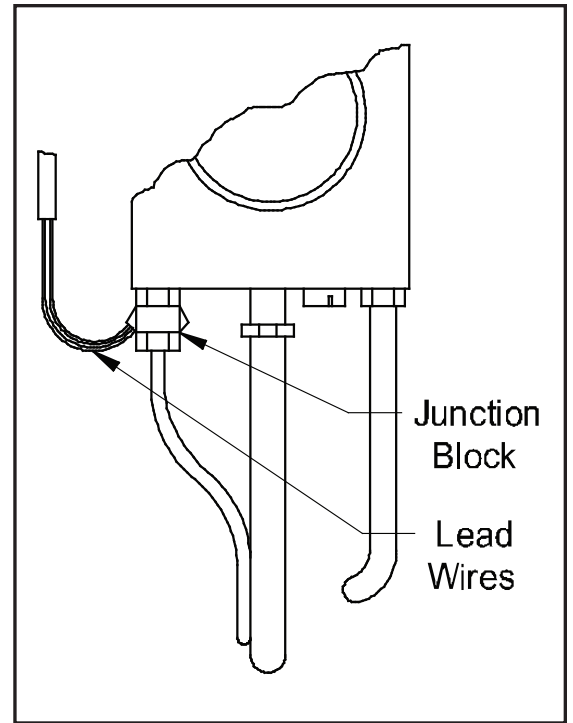
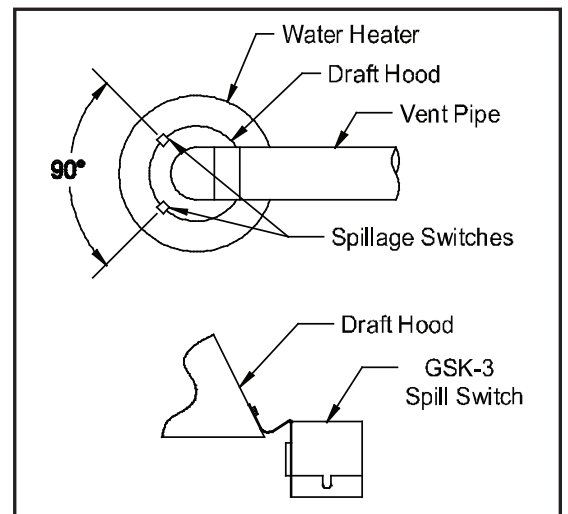

Figure 6
Figure 7
2. Thread the junction block into the thermocouple port and thermocouple into the bottom of the junction block. Connect lead wire from the junction block to the jacketed lead wires or wire enclosed in an accepted wiring enclosure. (See Figure 6) **NOTE:** Draft spillage switches must be mounted 90 degrees apart, and mounted opposite from the vent outlet direction. (See Figure 7)